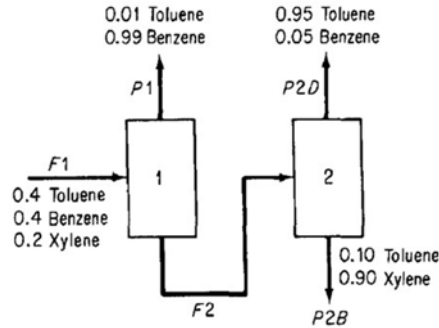

Figure SAT11P1
1. A two-stage separations unit is shown in Figure SAT11P1. Given that the input stream F1 is 1000 lb/hr, calculate the value of F2 and the composition of F2.
2. A simplified process for the production of SO3 to be used in the manufacture of sulfuric acid is illustrated in Figure SAT11P2. Sulfur is burned with 100% excess air in the burner, but for the reaction  $S + O_2 \longrightarrow SO_2$ , only 90% conversion of the S to SO2 is achieved in the burner. In the converter, the conversion of SO2 to SO3 is 95% complete. Calculate the kg of air required per 100 kg of sulfur burned, and the concentrations of the components in the exit gas from the burner and from the converter in mole fractions.